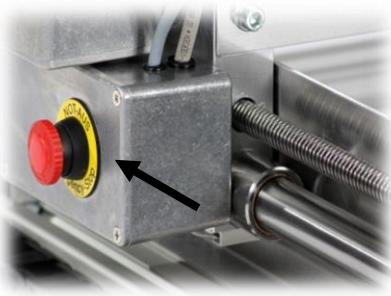

Figure 2:Emergency-stop-button on
- Only unlock the emergency-stop-button (*Figure 2 u. 3*) when there is no risk.